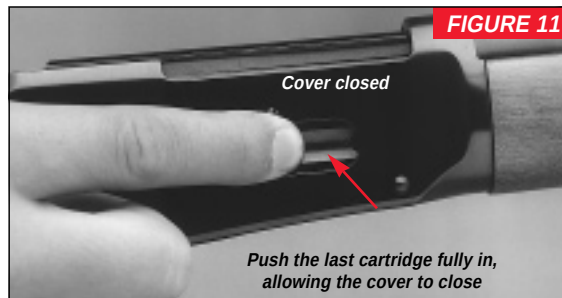

FIGURE 11
3. Repeat this procedure with each cartridge, but push the last cartridge past the end of the spring cover, allowing the cover to snap closed (See Figure 11). Do not exceed the recommended capacity of the magazine.